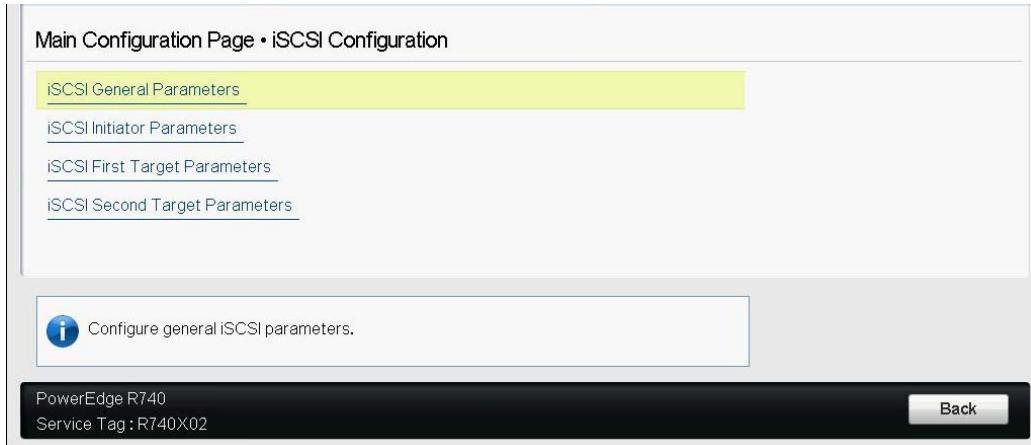

Figure 9-7. System Setup: Selecting General Parameters
2. On the iSCSI Configuration page, select **iSCSI General Parameters** (Figure 9-7), and then press ENTER.